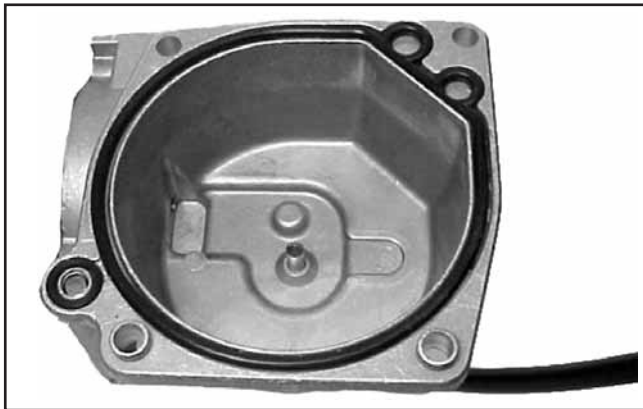

Figure 5-24. Installing Fuel Bowl O-Rings.
14. When the proper float height is obtained, carefully install the new O-Rings for the fuel bowl and transfer passage (if so equipped). See Figure 5-24.